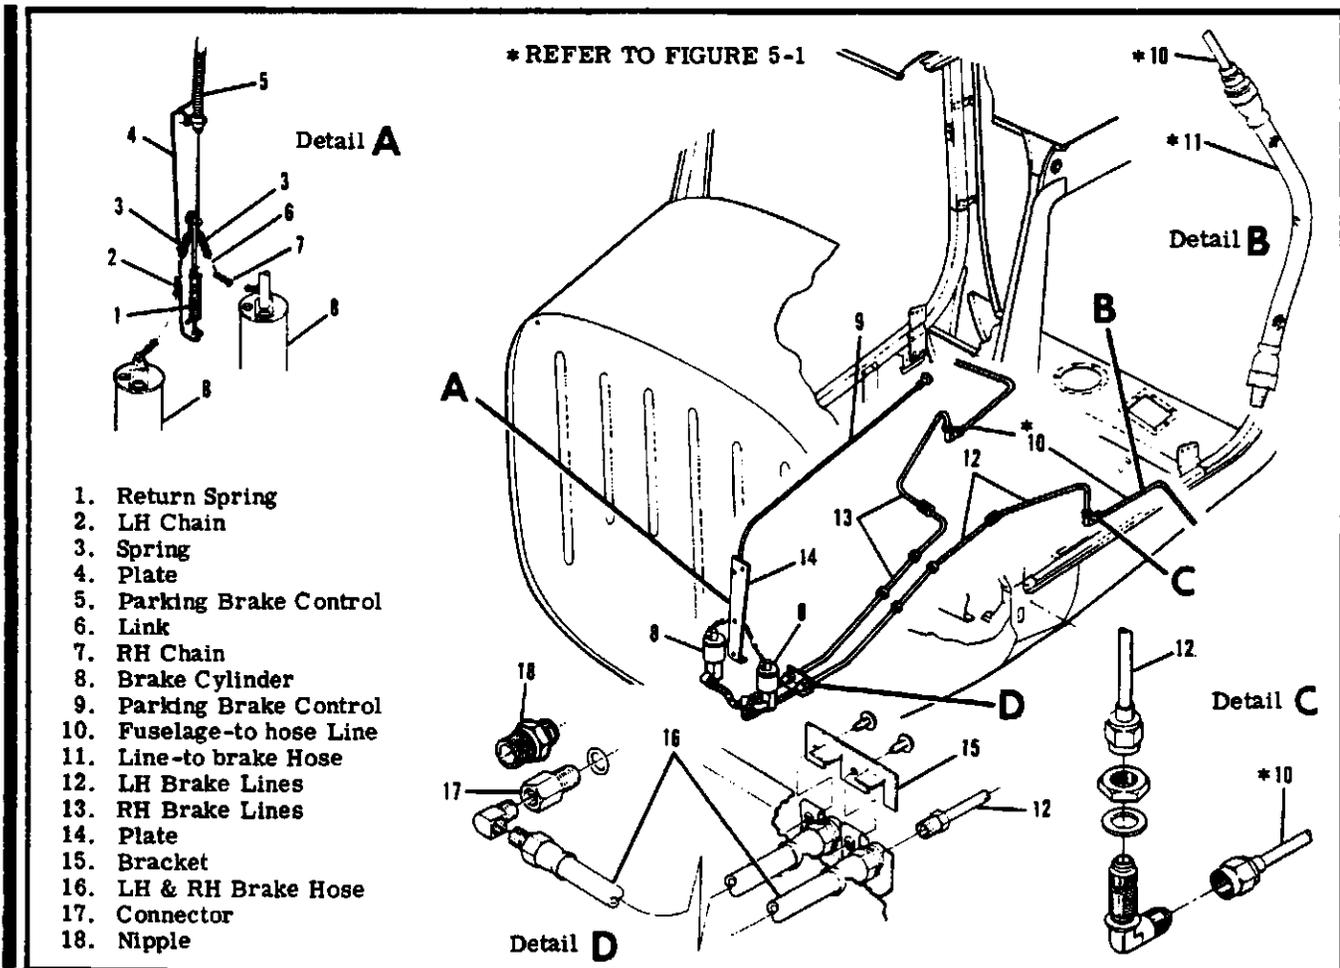

Figure 5-13. Brake Systems
**5-59. PARKING BRAKE SYSTEM.** (See figure 5-13.) The parking brake system consists of a control knob on the instrument panel which is connected to linkage at the master brake cylinders. At the brake master cylinders, the control operates locking plates which trap pressure in the system after the master cylinder piston rods have been depressed by toe-operation of the rudder pedals. To release the parking brake, depress the pedals and push the control knob full in.